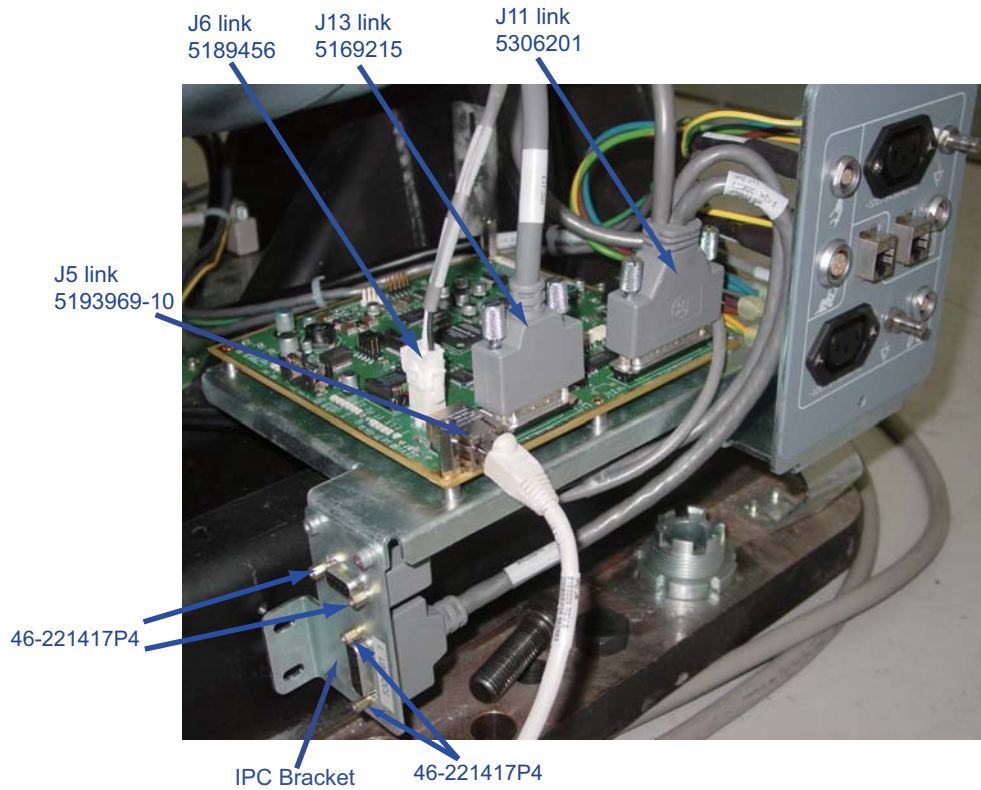

Figure 2-12 IPC BD Connection
- 5.) Connect cables 5189456, 5169215 and 5193969-10 to J6, J13 and J5 of IPC BD according to their labels. Connect cable 5306201 to J11 of IPC BD and IPC bracket using screw lock kit 46-221417P4 according to its labels, as shown in Figure 2-12.